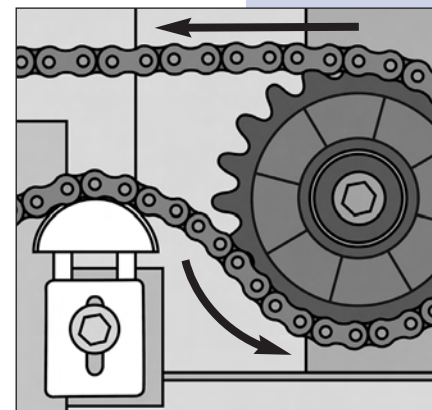
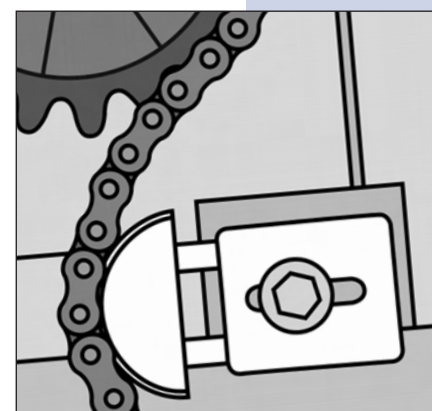

Fig. 1
Fig. 2
- The linear tensioner should always be mounted on the slack side of the drive. See Fig. 1.
- A linear tensioner used on a chain drive should always be positioned on the outside of the chain. See Fig. 2. **Note: If using the LT series and idler sprocket, at least three teeth must engage the chain.**
3. Insert mounting bolt in linear tensioner body and into the mounting hole. See Fig. 1 and Fig. 2. Hand tighten only! Check the alignment with the driveR and driveN sprockets. **Any misalignment must be corrected!**